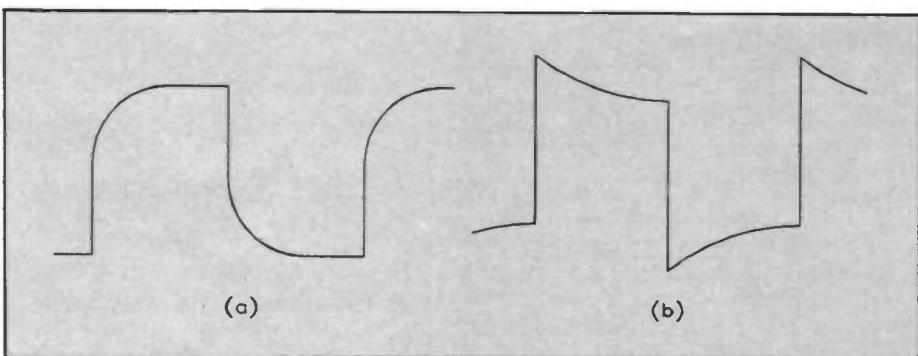

Figure 7. Distortion possible in square-waves: (a), by integration; (b), by differentiation.
In the case of the latter, the waveform may be degraded from the ideal by RC time-constants that are encountered in the transmission path. Depending upon the nature of these, the waveform will appear as in Figure 7(a) and (b). The waveforms are said to have been 'integrated' and 'differentiated' respectively. The degree of degradation of waveform (a) can be measured by
determining the rise and fall times (which, being time measurements, will be discussed in the next article), while the degradation of waveform (b) can be determined by measuring the 'sag'. This is the vertical difference in voltage between the two levels, A and B, indicated in Figure 7(b). This is carried out by using the X and Y shift controls to position the two levels, one at a time, against the major Y axis, measuring the vertical distance between them, and converting this to a voltage in the usual way. The greater the sag, the worse the waveform. This is an effect that usually occurs at low frequencies, and it is one of the ways in which the bandwidth performance of an audio amplifier can be assessed.
- (ii) The response of the CRO to square-waves of medium to high frequency is also reduced, producing distortion in the displayed square-wave of the form shown in Figure 7(a).